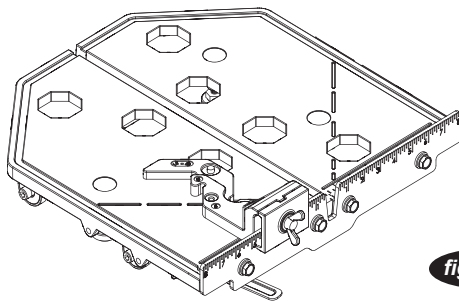

figure 5
- The ruler guide has inches marked along the top to allow convenient measurements and to promote precision cuts. (see **figure 5**)